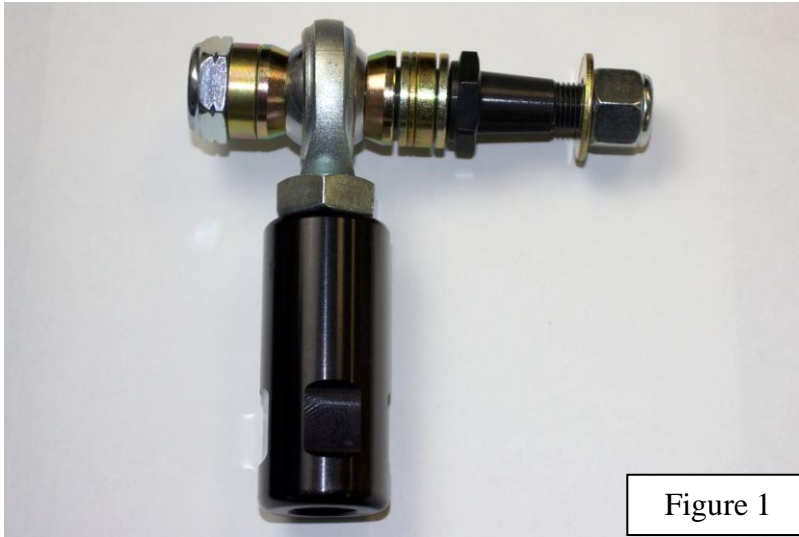

Figure 1
7. Install the tapered spacers on the straight portion of the tie-rod stud with the tapered side contacting the rod end (fig 1.). Arrange the spacers and rod end on the straight portion of the tie-rod stud. The final adjustments will be made on an alignment rack by the alignment shop. In the meantime, install the spacers at your "best guess" position, which you determine by trying to make the tie-rod as close as possible to parallel with the lower control arm.